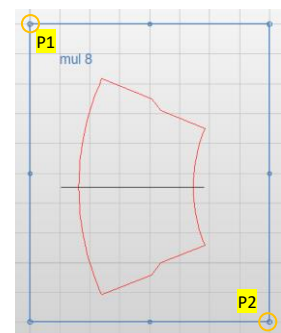

Figure 64
3. **COMMAND BOX:** To tell NestKing which geometries are affected by the Multiplier Command it is necessary to define the scope of the command. Therefore add a rectangle, which needs to be on layer 9. This command rectangle should cover the Bulkhead geometries and the mul-Command as well (Figure 64). Now NestKing knows that all cuts inside the command rectangle need to be copied eight times before nesting.